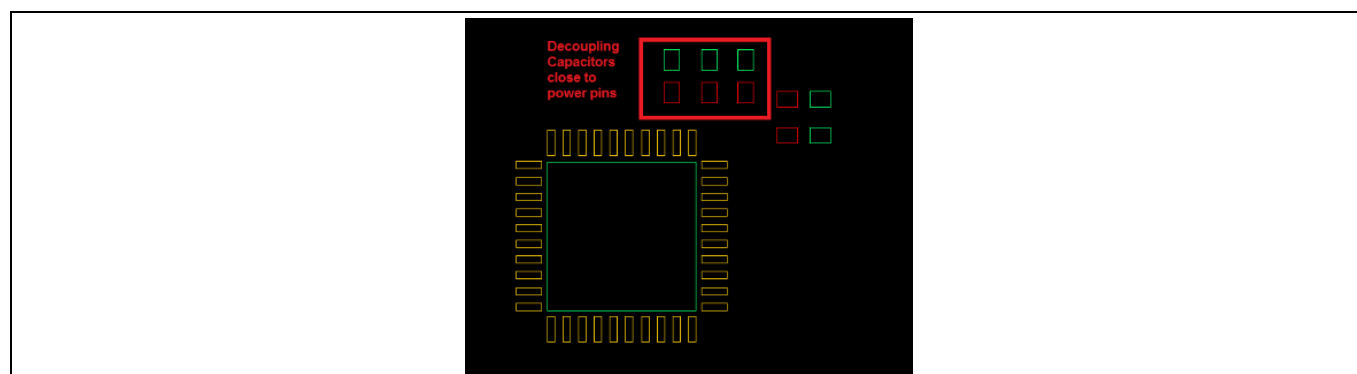

Figure 7 Placement of bulk and decoupling capacitors
- Place decoupling capacitors close to the power pins of the respective CCG controller for high- and low-frequency noise filtering, as shown in Figure 7.